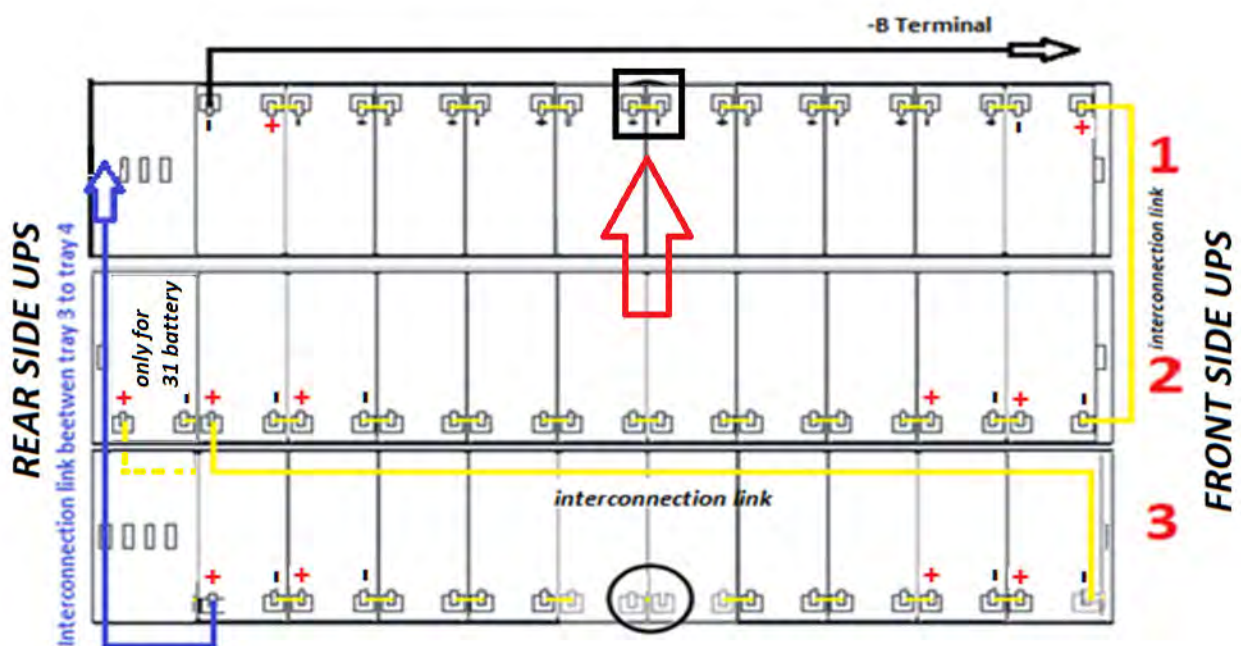

Figure 25 - View from above Level No.1 with battery connections
19) From the right hand side of the UPS, partially extract tray no. 1 and insert the missing jumper as indicated in the figure 25